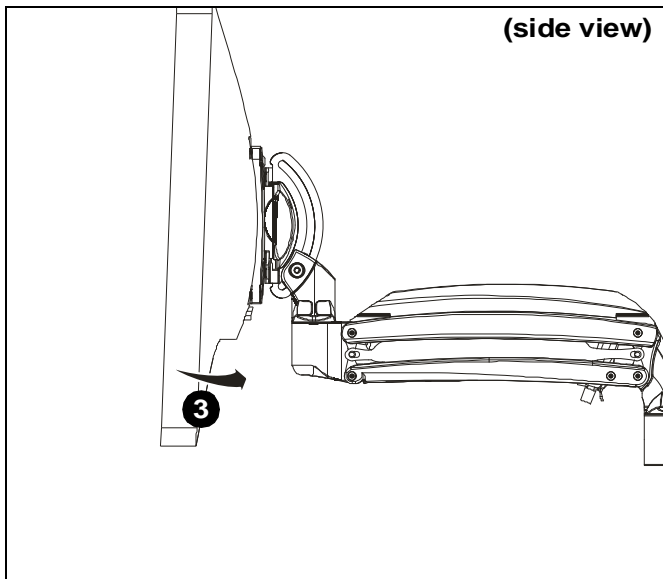

Figure 4
3. Slide base of monitor towards mount until lower tabs secure display to mount. An audible "click" should be heard. (See Figure 4)